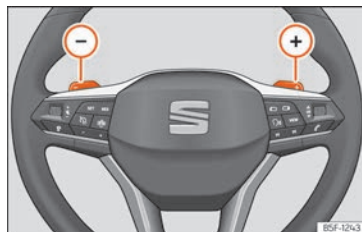

Fig. 169 Steering wheel: automatic transmission levers
- Press the gearshift paddle  to select a higher gear **»» Fig. 169.**